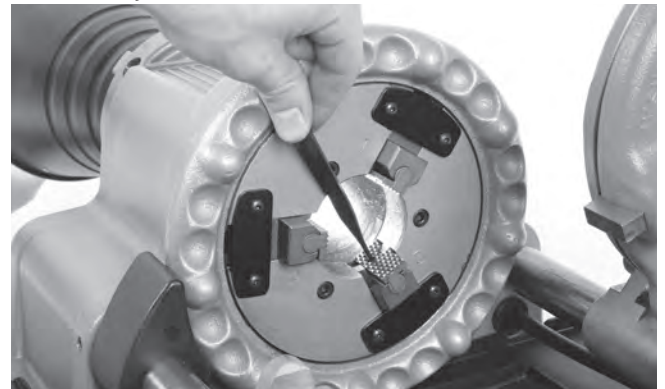

Figure 18 – Replacing Jaw Inserts
1. Place punch into spring detent slot of jaw and push down (*Figure 18*). Continue to push down and slowly slide insert out of chuck jaw holder.